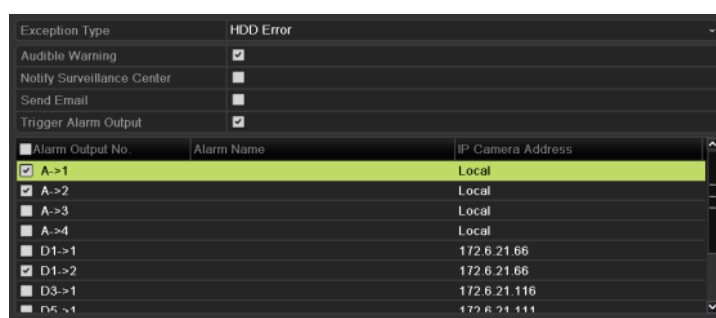

Figure 11. 25 Configure HDD Error Alarm
3. Click the checkbox(s) below to select the HDD error alarm type (s), as shown in Figure 11. 25.